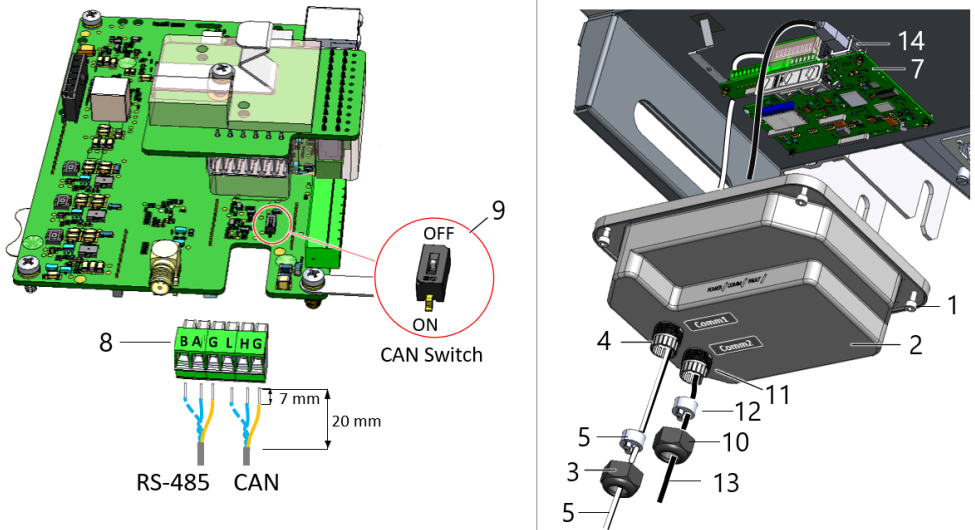

Figure 34: Connecting the communication cables
Make sure the CAN Switch (see item 9 in *Figure 34*) is set to ON position on the first and last inverters on the CAN bus.
4. Release the four Allen screws (1) of the communication compartment cover (2) and remove the cover (see *Figure 34*).
5. Loosen the nut (3) of Comm 1 gland (4) and remove the rubber seal (5).
6. Route the communication cable (6) via one of openings in the rubber seal, through the gland and communication compartment cover (2).
7. Pull down to remove the communication board (7) from the enclosure.
9. Secure the wires to the terminal screws of the connector (8) and plug the connector to the communication board (7). Connect the other end of the cable to the same terminals of the next inverter.
- 10. Terminate the first and last inverters on the communication bus by moving the CAN Switch (9) to ON. All other inverters on the bus must be switched to OFF.
- 11. Install the communication board (7) back onto the enclosure.
- 12. Place the communication compartment cover (2) and secure the four Allen screws (1) to a torque of 3.9 N\*m/34.5 lb\*in(see *Figure 34*).
- 13. Place the rubber seal (4) inside the gland nut (3) of Comm1 gland (13) and fasten the nut to a torque of 5.5 N\*m/48.6 lb\*in.
1. Loosen the nut (10) of Comm2 gland (11) and remove the rubber seal (12) from within (see Figure 34).
2. Route the Ethernet cable (13) through one of openings in the rubber seal, and through the gland, into the enclosure.
4. Plug the Ethernet cable (13) into the LAN port (14).
5. Attach the communication board (7) to the enclosure.
6. Insert the rubber seal (12) into the Comm2 gland (11) and tighten the nut to 5.5 N\*m/5.42 lb\*ft.
7. Place the communication compartment cover (2) and secure the four Allen screws (1) to a torque of 3.9 N\*m/34.5 lb\*in.